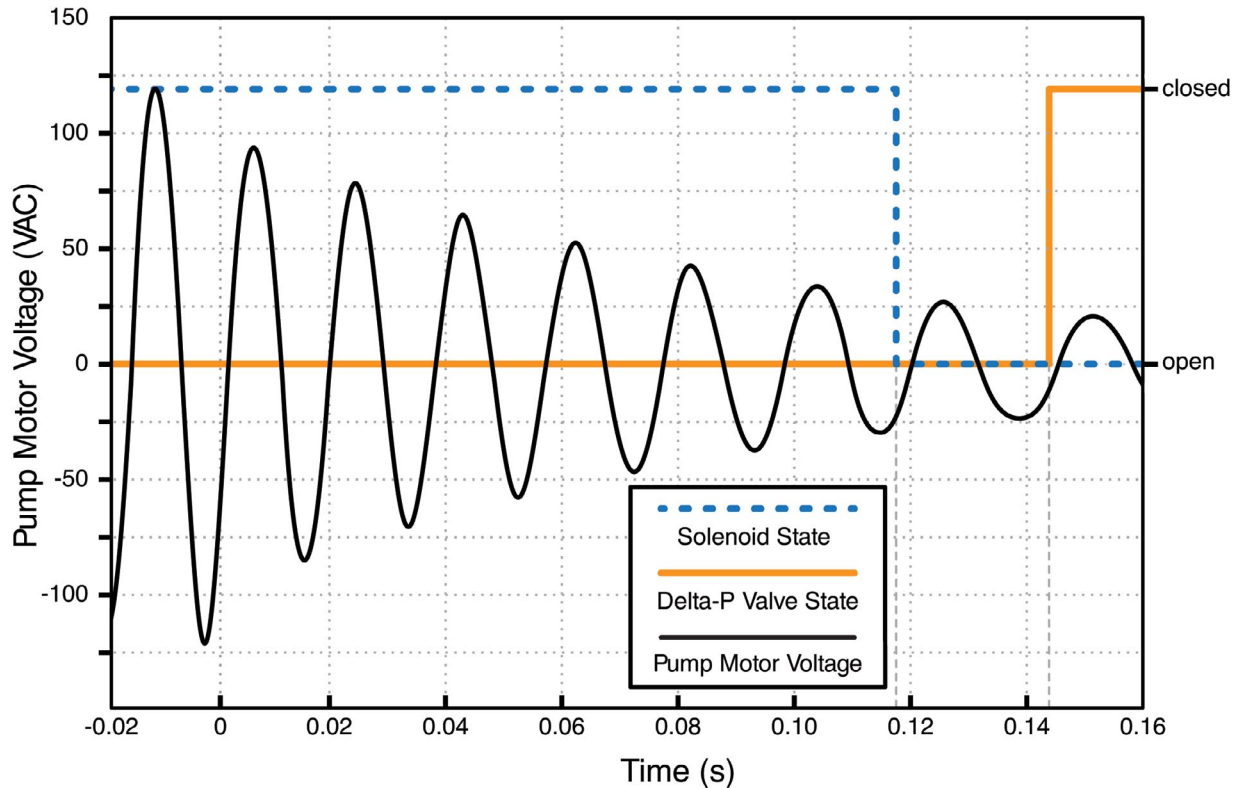

Figure 6 - Closure Test with Agilent Varian SH 110 Vacuum Pump
Figure 6 shows the results of an actual test using an Agilent Varian SH 110 dry scroll vacuum pump and the Delta-P Valve operating on standard 120 VAC power. The vacuum pump and solenoid are wired in parallel, powered from the same electrical circuit breaker. The pump motor's AC voltage is plotted as a function of time. The power is switched off at (0) seconds. The blue dashed line shows the state of the solenoid valve. The solid orange line represents the Delta-P Valve state.